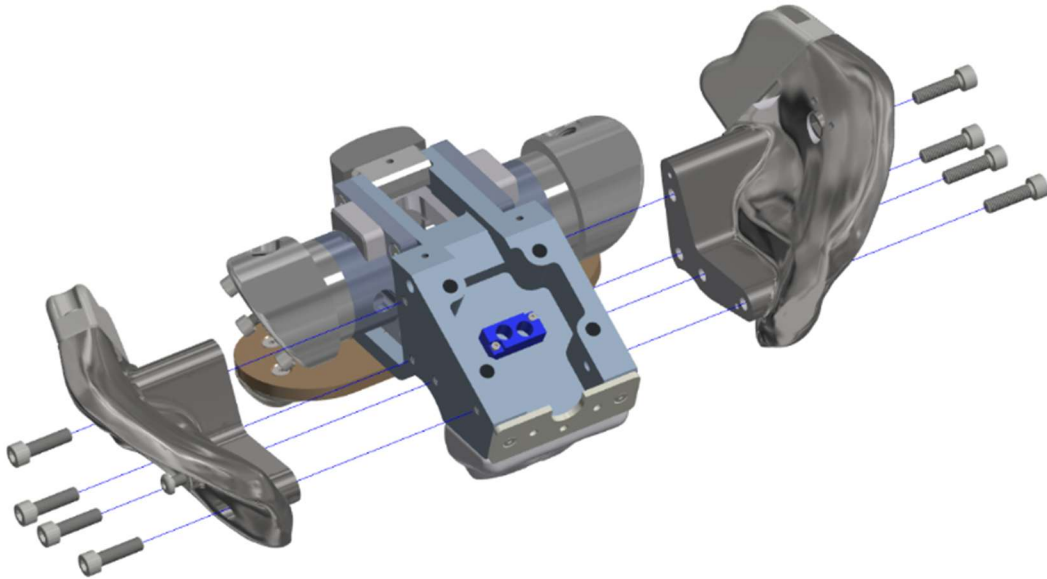

Figure 8-14. Remove the left and right Iliac Wings (474-4540-1,2-A)
- 8.2.10 Remove the left and right Iliac Wings (474-4540-1,2-A) by removing four M6 X 1 X 22 LG. SHCS per side (Figure 8-14).